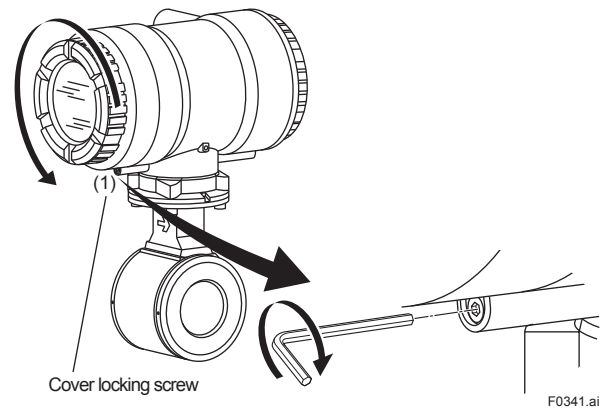

Figure 3.6.1 Removing the Display Cover (Integral Flowmeter)
- Using the wrench, loosen the cover locking screw (1) (See Figure 3.6.1 and Figure 3.6.2) clockwise to unlock the cover. Upon shipment from the manufacturing plant, the cover is locked. Hold the flowmeter with your hand. Remove the cover by rotating it counterclockwise.
(3) Installing the Cover
- Tighten cover locking screw (1) (See Figure 3.6.1 and Figure 3.6.2) counterclockwise using a hexagonal wrench (nominal size 3) to lock the cover.